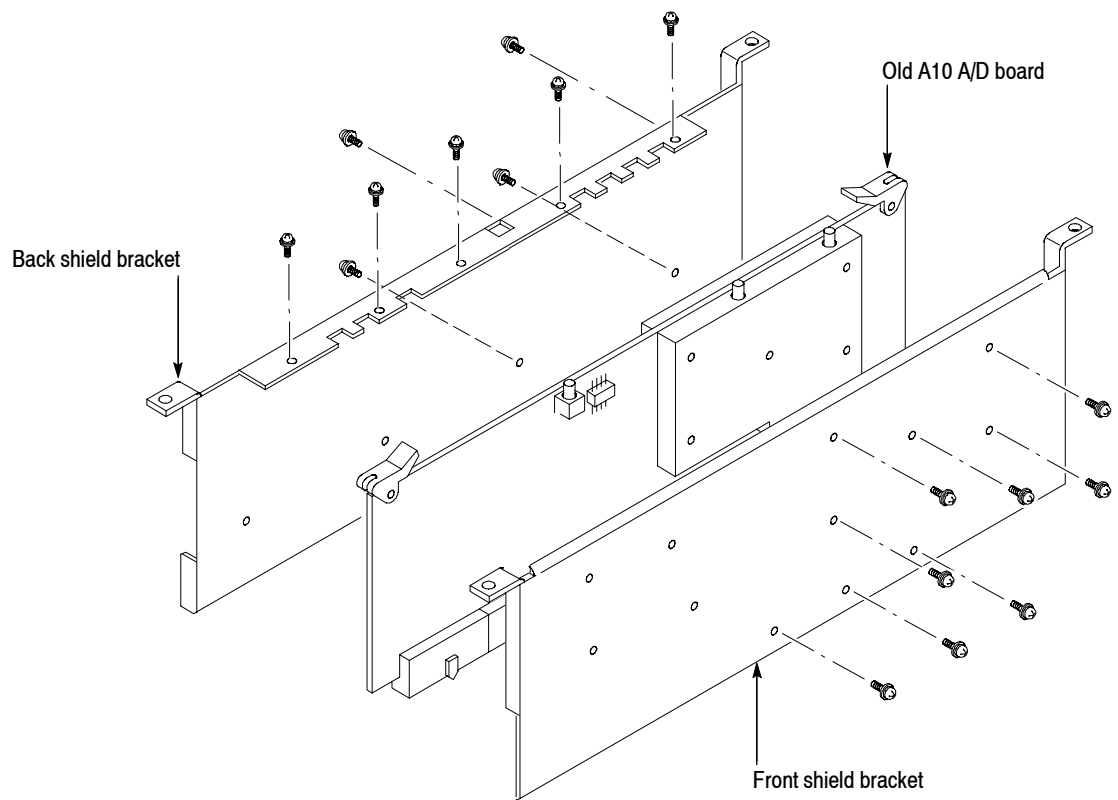

Figure 5: Detaching the shield brackets
5. *Remove the shield brackets:* (See Figure 5 below.)